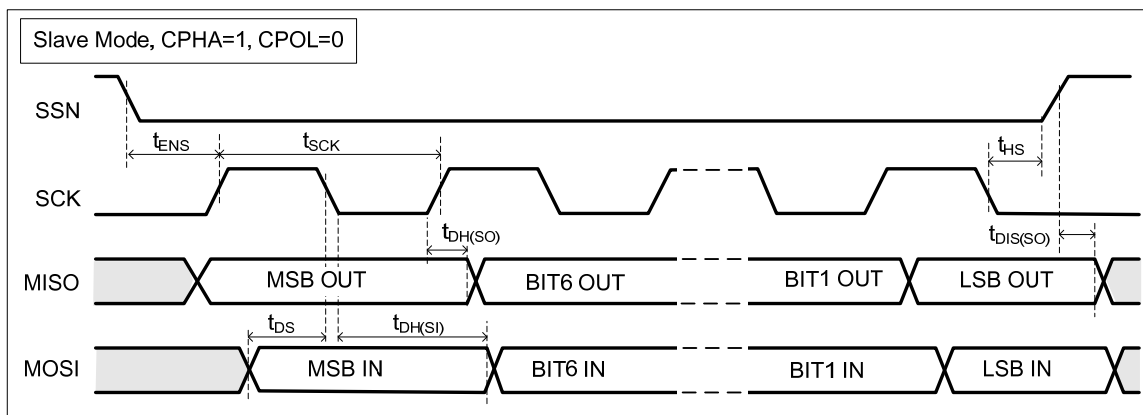
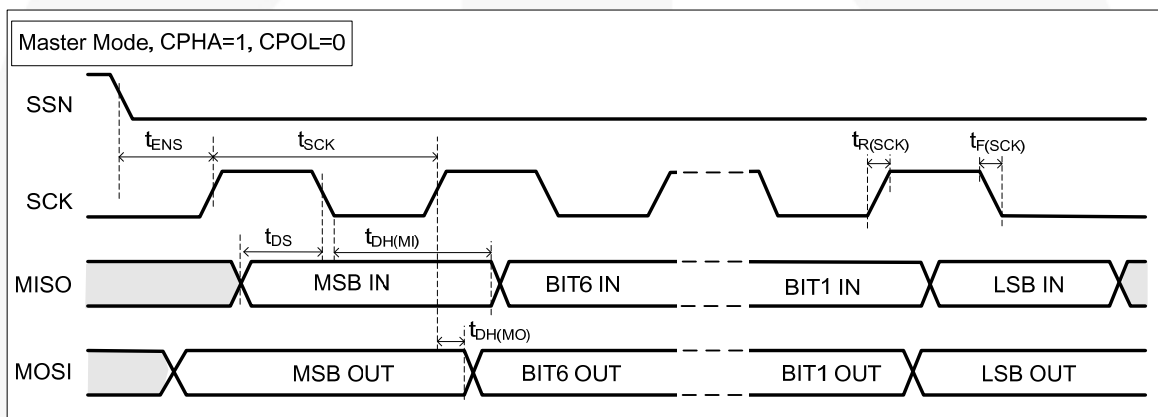

Figure 5. SPI Timing Diagram– Slave Mode
Figure 6. SPI Timing Diagram – Master Mode
9. SPI timing diagrams as Figure 5 and Figure 6.